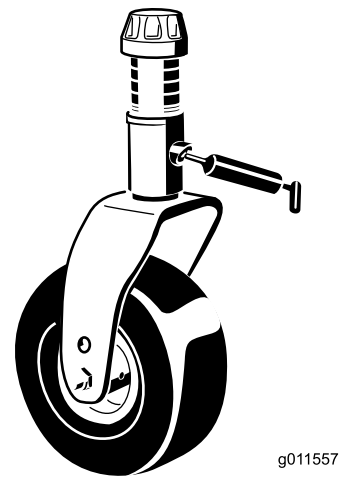

Figure 66
- Castor fork shaft bushing (1) (Figure 66)
- Idler arm pivot bushings (1) (located on the idler arm)